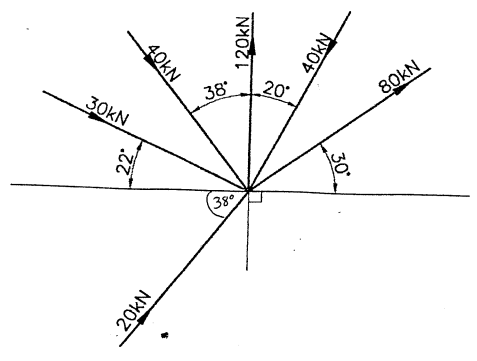

FIG. 1.2b
- c) Fig 1.2b) shows a system of loads applied at a point in a structure. Determine the horizontal and vertical components of the loads and hence fully describe the resultant force.